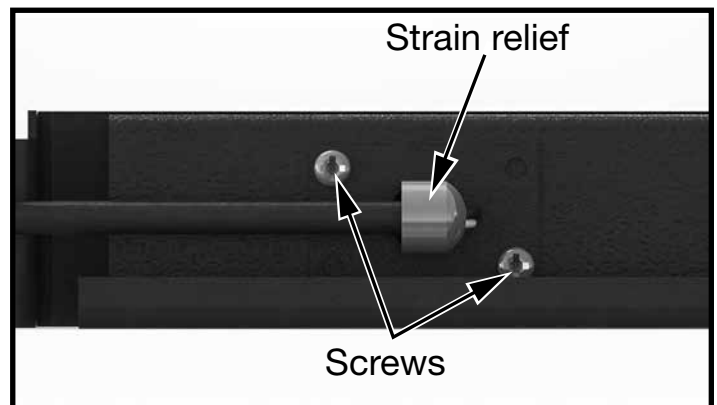

Figure 14: Strain relief.
3. Remove the two screws securing the backing plate with the strain relief in it and rotate 180 degrees. See (Figure 14) You will lose approximately 12”(305mm) of cord length when switching to the left hand side.